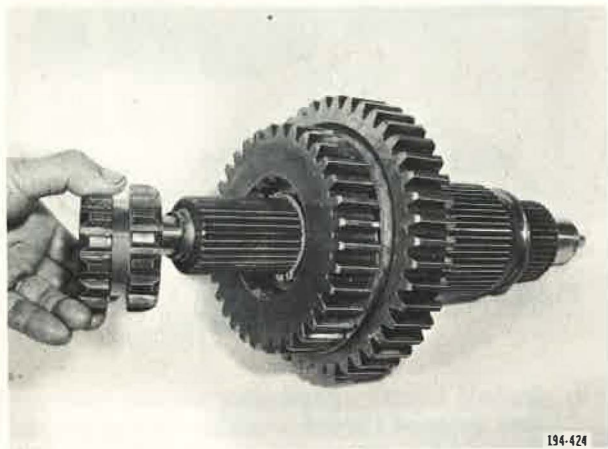

Figure 47. Installing Fourth and Fifth Speed Sliding Clutch
10. Install fourth and fifth speed gear sliding clutch. See Figure 47. Install spigot ball bearing on front of shaft, then install bearing retaining snap ring.